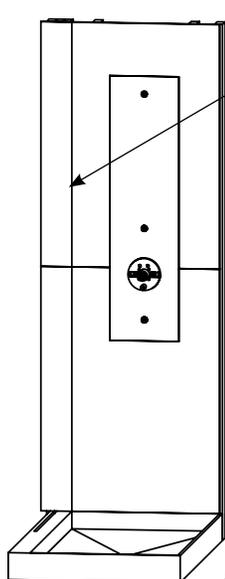

figure 18
5. Use a level to draw a straight vertical line all the way up from the inside edge of the pan on both sides (fig. 18). This line will be used as a guide for the placement of the wall panels and thresholds.